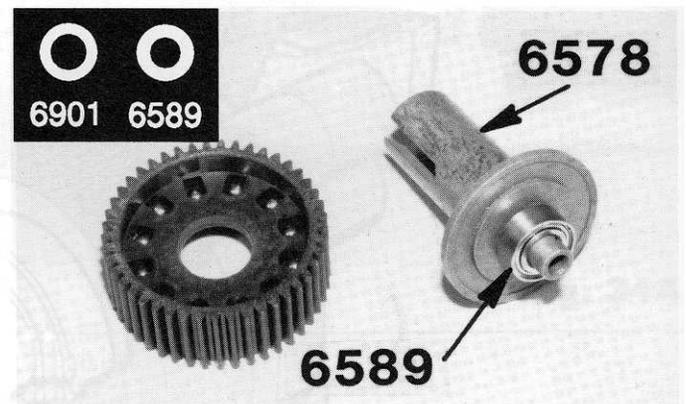

Fig. 38
□ **Fig. 38** Clean all the silicone grease off your hands. Next open Bag B which contains the nine bearings for the tranny. Take out the three small bearings with 5/16" outside diameter and lay them on a flat surface. If you look carefully you will see that one has a slightly larger inside diameter. The two bearings with the small inside diameter are #6589 and the one with the larger I.D. is a #6901. Push one of the #6589 ball bearings onto the center of the gear. The other #6589 bearing goes onto the #6578 left hand hub from Bag A as shown.
Now slip the #6587 spring on and start the 5-40 nut on. Tighten the nut until about 1/2 thread is showing outside the nut. This is a good starting point for the clutch adjustment. If the ball bearing in the clutch hub will not slip onto the shaft, then you have not used the correct bearing described in fig. 38. Disassemble the diff and install the correct bearing.